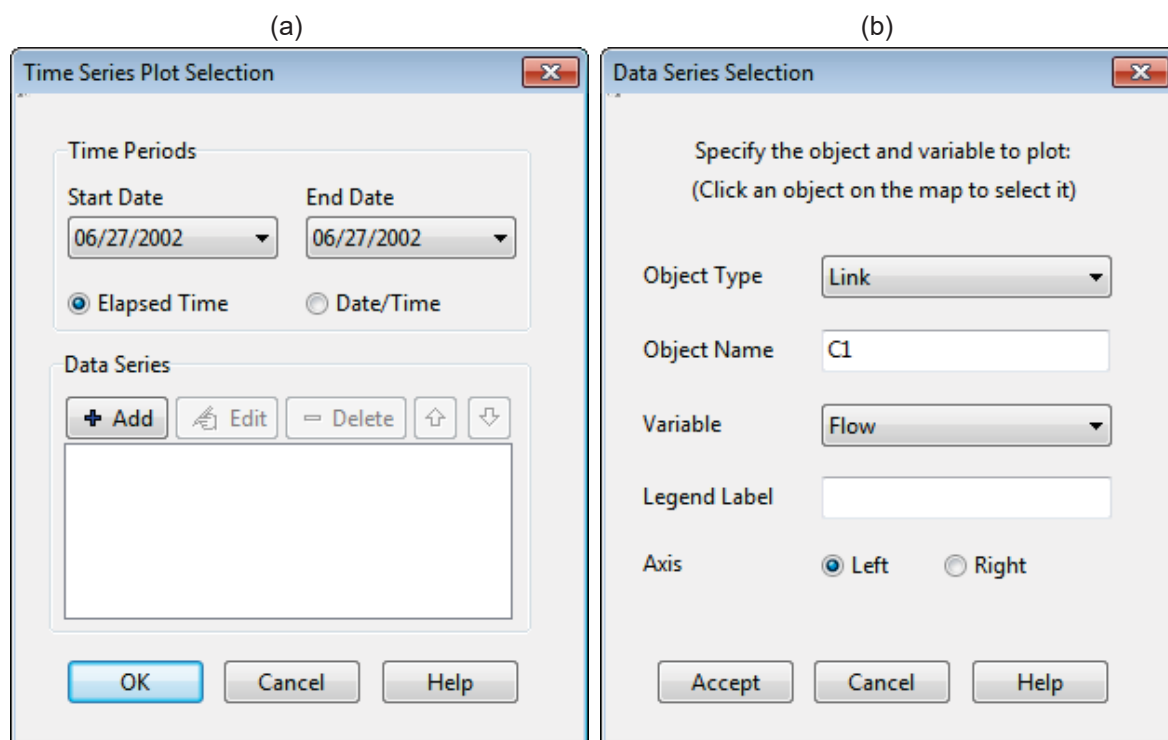

Figure 2-14 Time series plot dialogs
1. Click the **Add** button on the dialog to view the Data Series Selection dialog (Figure 2-14(b)).